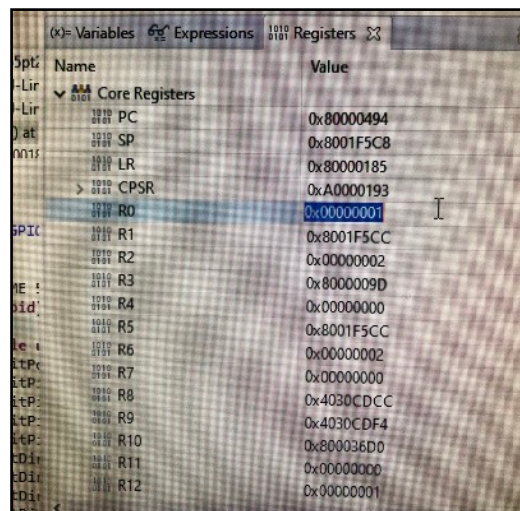

fig. 1
Step 4: I changed the value of R0 from 0x00000000 to 0x00000001, which shown in figure 1.